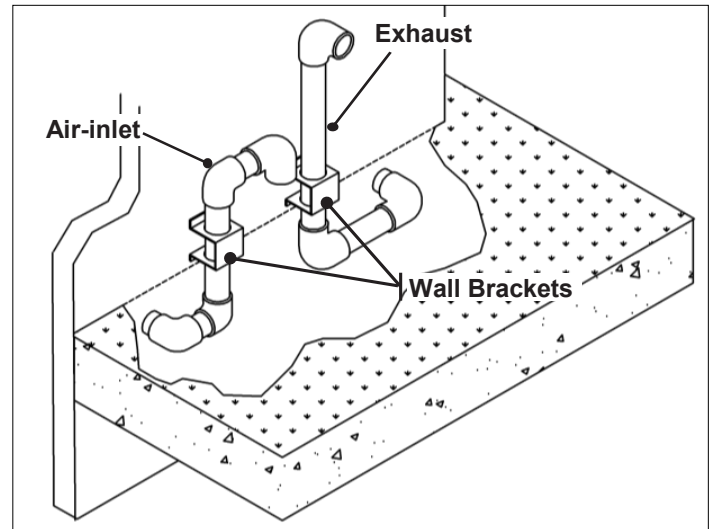

Figure 18 - Venting Below Grade
1. Excavate the site to a point where the pipes are to exit as shown in Figure 18.